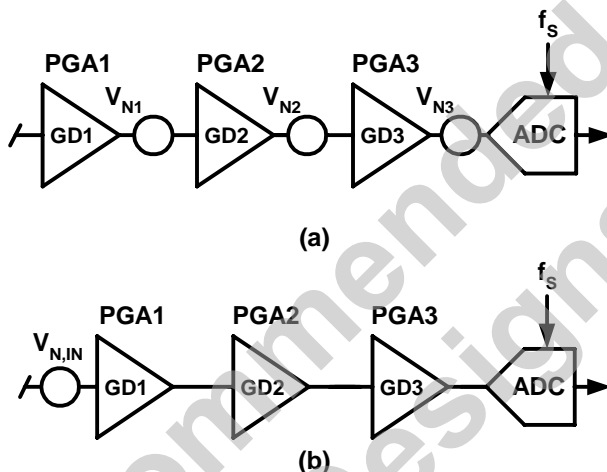

Figure 17-18. (a) Simple noise model for PGAs and ADC
- (1) Gain defined as overall PGA gain  $GD_{TOT} = GD_1 \cdot GD_2 \cdot GD_3$ . Maximum input voltage is given by:  $V_{IN,MAX} = \pm(V_{REF}/2) \cdot (OSR/OSR+1)$ .
- (2) Offset due to tolerance on  $GDOFF_2$  or  $GDOFF_3$  setting. For small intrinsic offset, use only ADC and PGA1.
- (3) Measured with block connected to inputs through AMUX block. Normalized input sampling frequency for input impedance is  $f_s = 512kHz$ . This figure must be multiplied by 2 for  $f_s = 256kHz$ , 4 for  $f_s = 128kHz$ . Input impedance is proportional to  $1/f_s$ .
- (4) Figure independent from PGA1 gain and sampling frequency  $f_s$ . See model of Figure 17-18(a). See equation Eq. 21 to calculate equivalent input noise.
- (5) Figure independent on PGA2 gain and sampling frequency  $f_s$ . See model of Figure 17-18(a). See equation Eq. 21 to calculate equivalent input noise.
- (6) Figure independent on PGA3 gain and sampling frequency  $f_s$ . See model of Figure 17-18(a) and equation Eq. 21 to calculate equivalent input noise.
- (7) Resolution is given by  $n = 2 \cdot \log_2(OSR) + \log_2(N_{ELCONV})$ .  $OSR$  can be set between 8 and 1024, in powers of 2.  $N_{ELCONV}$  can be set to 1, 2, 4 or 8.
- (8) If a ramp signal is applied to the input, all digital codes appear in the resulting ADC output data.
The simple noise model of Figure 17-18(a) is used to estimate the equivalent input referred rms noise  $V_{N,IN}$  of the acquisition chain in the model of Figure 17-18(b). This is given by the relationship:
Note: see noise model of Figure 17-18 and equation Eq. 21.